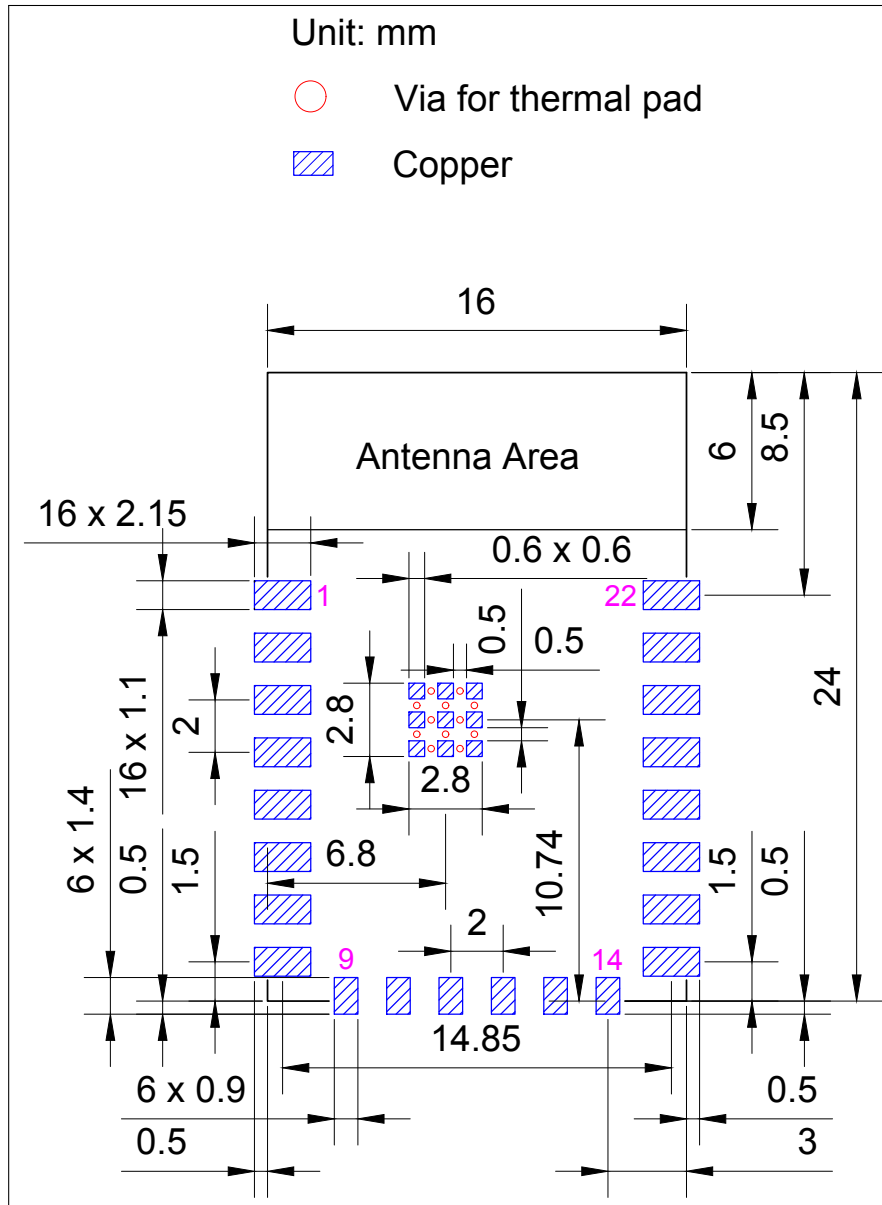

Figure 11-1. Recommended PCB Land Pattern
- Figure for the recommended PCB land pattern with all the dimensions needed for PCB design. See Figure 11-1 *Recommended PCB Land Pattern*.
- Source file of the recommended PCB land pattern to measure dimensions not covered in Figure 11-1. You can view the source files for ESP8685-WROOM-01 with Autodesk Viewer.